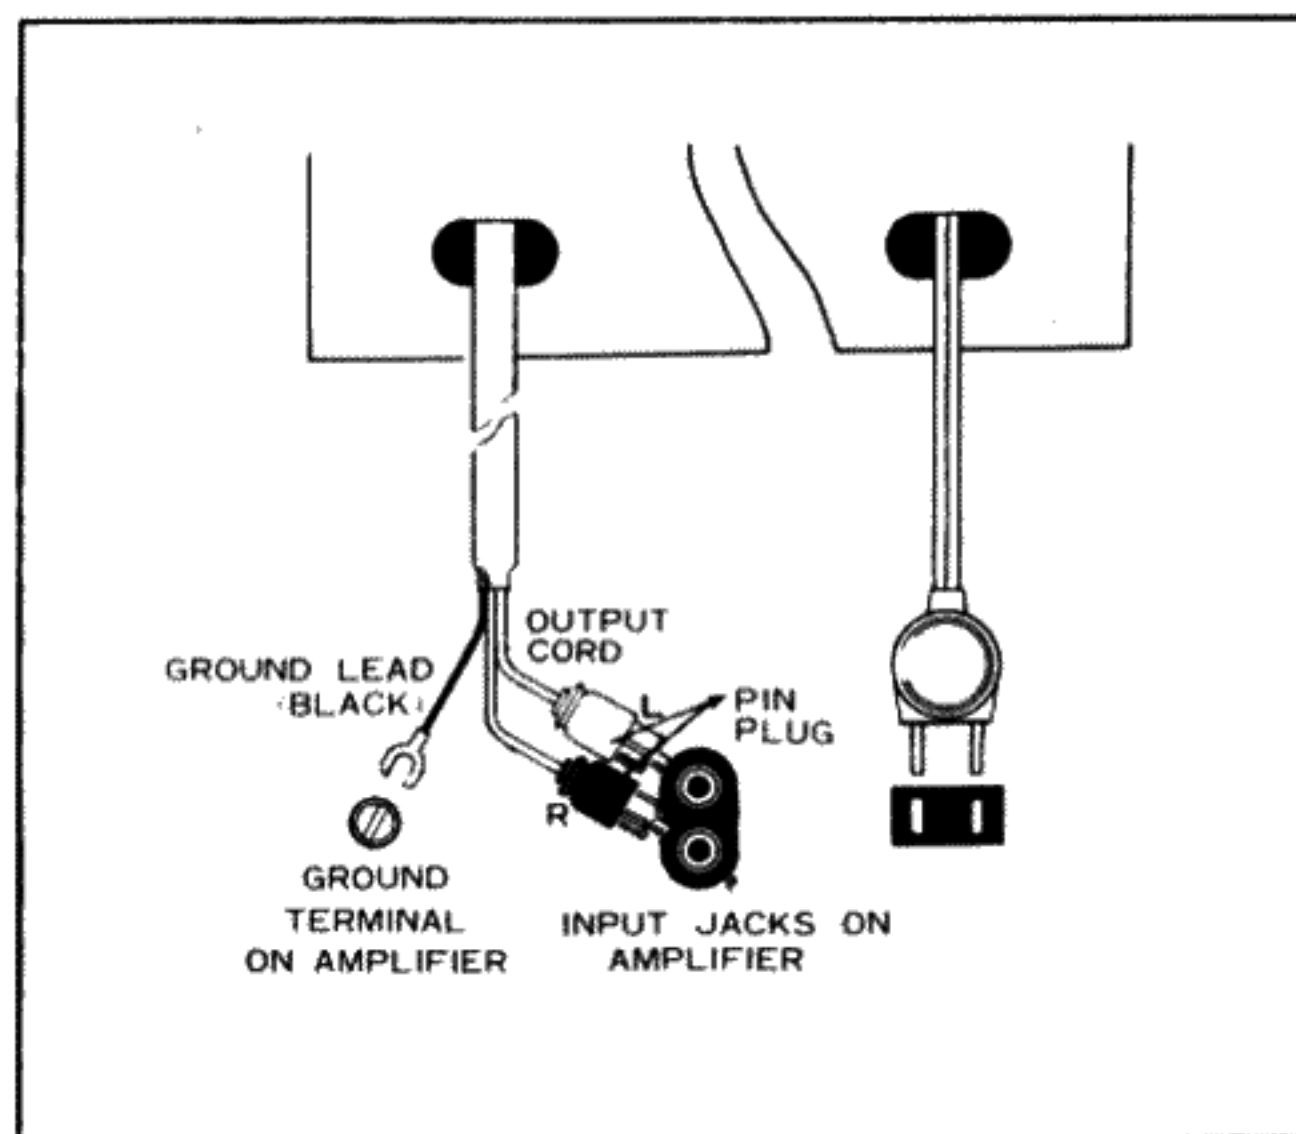

Fig. 16
- The "L" lead has a pin plug for connection to the left channel input jack on your amplifier, and the "R" lead, a similar pin plug for connection to the right channel input jack. The black lead has a terminal lug for connection to the grounding terminal on your amplifier. (Fig. 16)